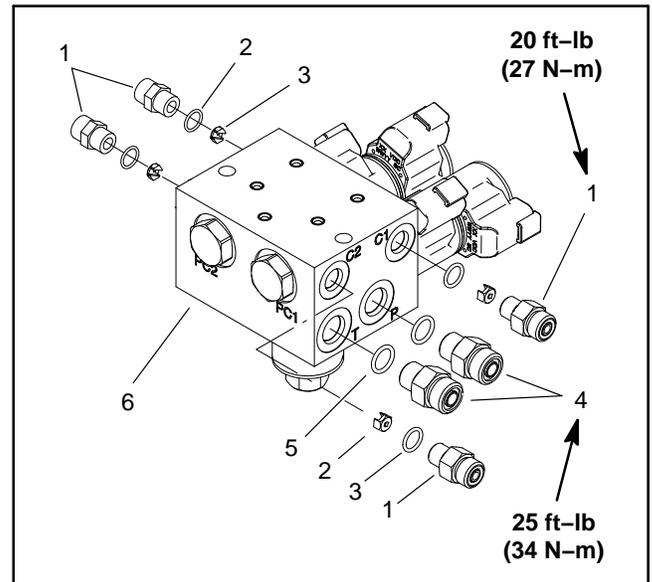

Figure 36
6. Remove two (2) flange nuts and cap screws that secure boom lift control manifold to the manifold mount plate. Remove control manifold from machine.
7. If necessary, remove fittings and flow control orifices from control manifold and discard O-rings (Fig. 36).
1. If fittings were removed from control manifold, lubricate and place new O-rings onto fittings. Install fittings into control manifold port openings (Fig. 36).
2. Position boom lift control manifold to manifold mount plate. Secure manifold to plate with two (2) cap screws and flange nuts.